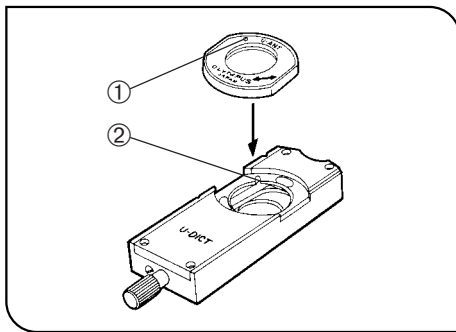

Fig. 61
3 Attaching the Analyzer and DIC Slider (Figs. 61 to 63)
2. Align the index ① of the U-ANT analyzer and the positioning groove ② of the U-DICT DIC slider and drop the analyzer into the analyzer mount of the DIC slider. (Fig. 61)
3. Hold the U-DICT ③ so that the side with indication faces down, insert it into the revolving nosepiece, and tighten the clamping knob ④.